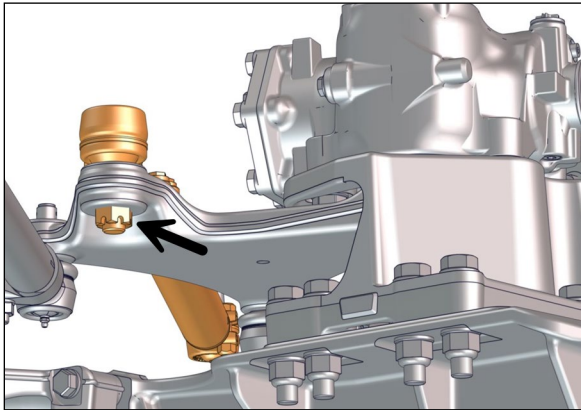

FIGURE 7
8. Remove the split pin, the castellated nut and then disconnect the power cylinder from the T-Arm (Figure 7). TOOL: puller.